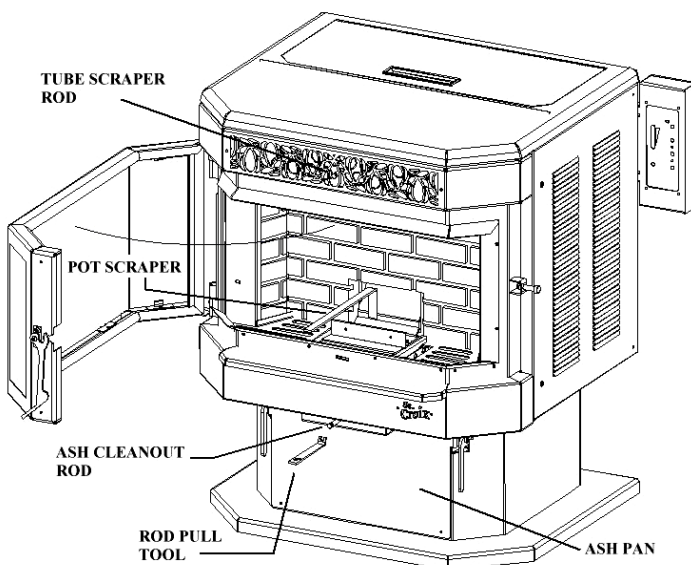

Figure 6
2. Remove ash buildup under the grate bottom daily or as frequently as needed. Clean the ashes out from under the burn pot by pulling the Ash Cleanout Rod in and out several times (see Fig. 6) Use the Rod Pull Tool with the Ash Cleanout Rod. This tool is hanging on a screw on the back of the stove; this provides a convenient location to keep the tool in reach and prevent it from getting lost.
3. Check ash pan (See Fig. 6) to determine emptying frequency needed. NOTE: Do not use a vacuum cleaner for this purpose. Hot coals may cause your vacuum filter to catch fire. Place ashes in a metal container with a tight fitting lid. The closed container of ashes should be placed on a noncombustible floor or on the ground, well away from all combustible materials, pending final disposal. If the ashes are disposed of by burial in soil or otherwise locally dispersed, they should be retained in the closed container for at least two days until all cinders have thoroughly cooled.
4. Once or twice daily pull the Heat Exchange Tube Scraper, (*See stove layout on page 2*) out and back to clean heat exchange tubes. Failure to operate the tube scraper daily may result in poor combustion and loss of heat output. This should be done when the stove is cool or operating on the low temperature setting. Use the Rod Pull Tool shown in Figure 6 with the Tube Scraper Rod.